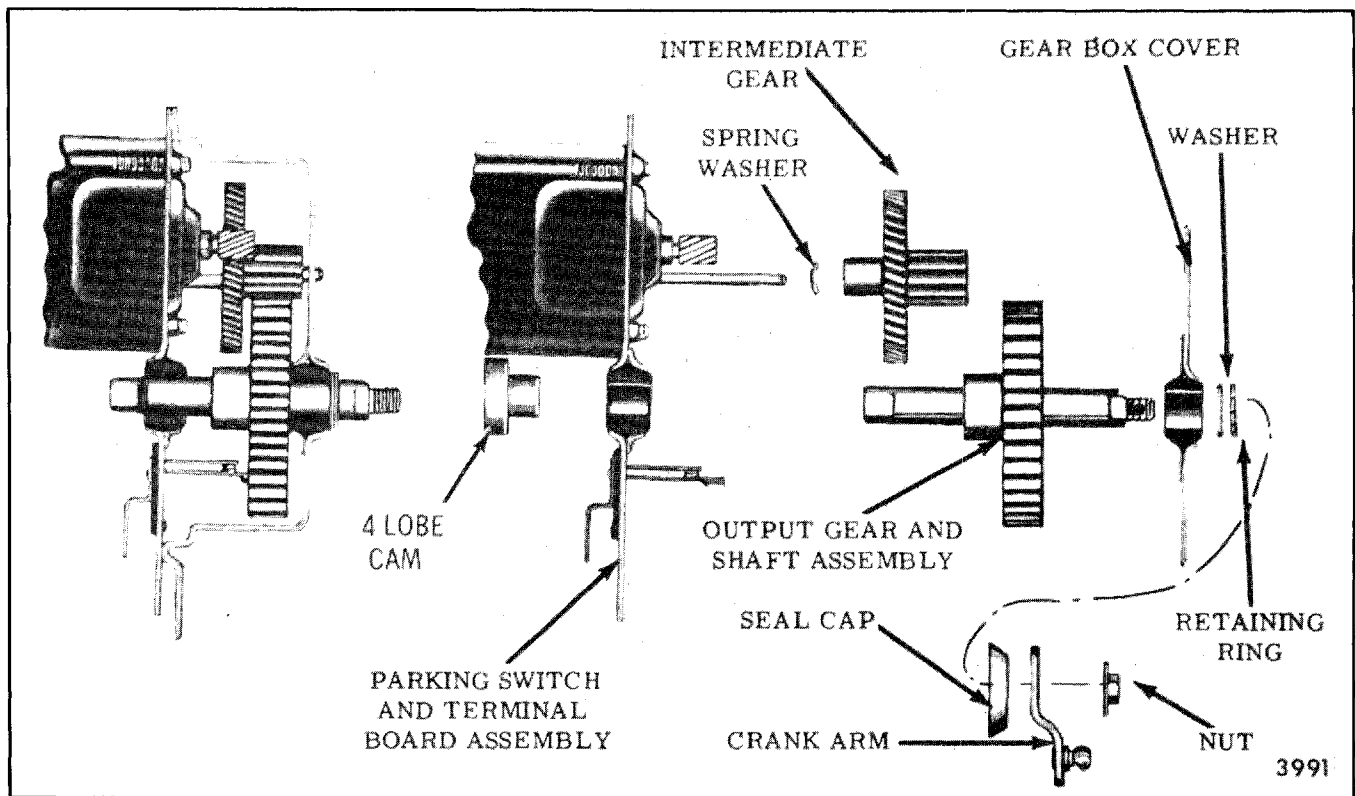

Fig. 2-35-Gearbox
3. Remove crank arm, seal cap, retaining ring and end play washers (Fig. 2-35).
6. Reassemble end play washers and retaining ring over output gear shaft (Fig. 2-35). Use end play washers as required to obtain .005" maximum end play.